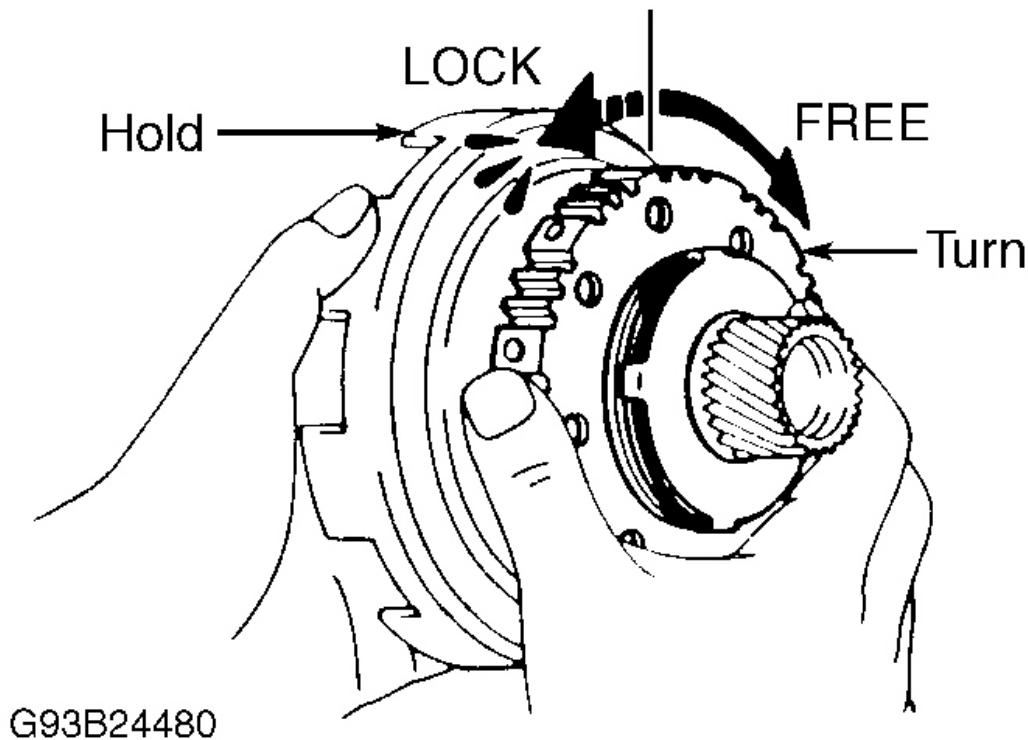

Fig. 27: Checking No. 1 One-Way Clutch
1. Check No. 1 one-way clutch operation. Hold sun gear and turn hub. Hub should rotate freely clockwise and lock when turned counterclockwise. See **Fig. 27**. Remove 2nd brake hub and No. 1 one-way clutch from sun gear.